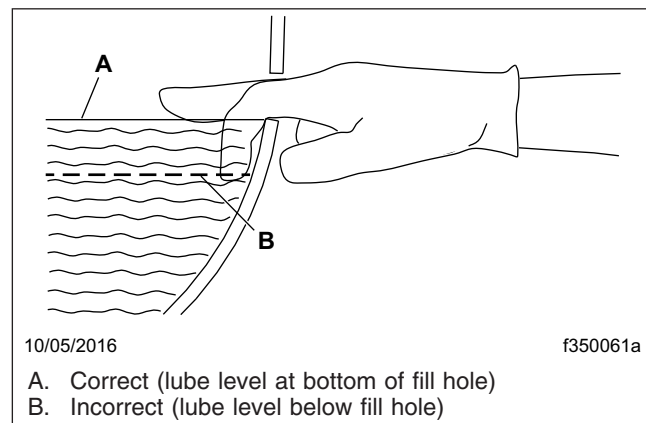

Fig. 2, Axle Lubricant Level Inspection
- 5.1 Fill the axle through the oil fill hole. Lubricant should be level with the bottom of the oil fill hole. To check fluid level, see Fig. 2.
Lubricant should be level with the bottom of the oil fill hole. To check fluid level, see **Fig. 2**.